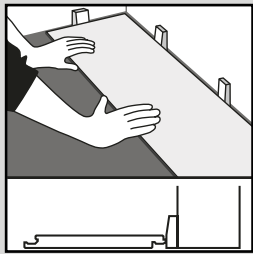

Fig. 1
- Starting with a full plank/tile along the wall, calculate how many widths there are across the room. If this means there will be a row of narrow planks/tiles along the opposite wall, cut the first row accordingly. Install this product with the tongue side/cut edge facing the wall. Install 3/16" (5 mm) spacers between the plank/tile and wall (Fig. 1).